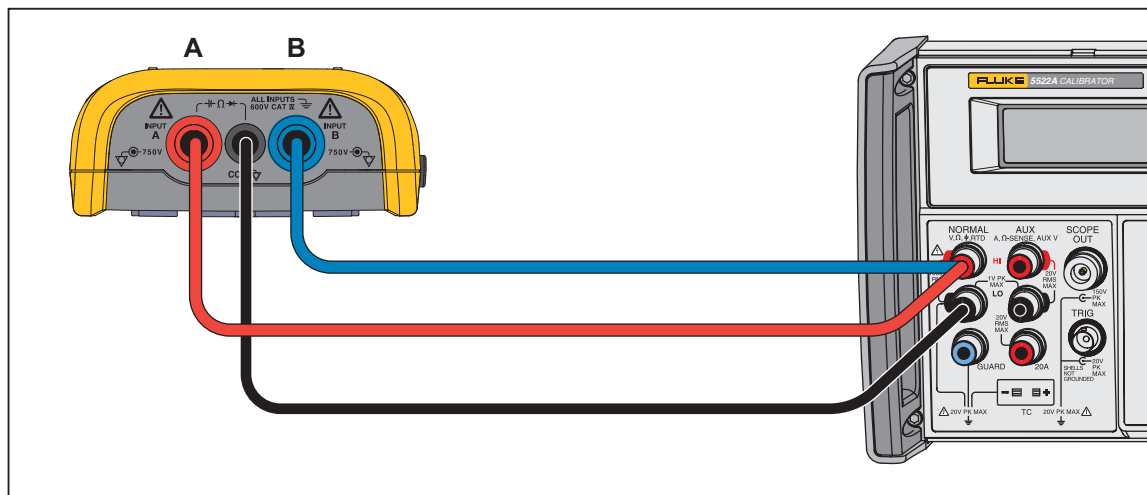

Figure 8. Test Tool Input A-B to Calibrator Normal Output for >300 V
1. Connect the Test Tool to the Calibrator. See Figure 8.